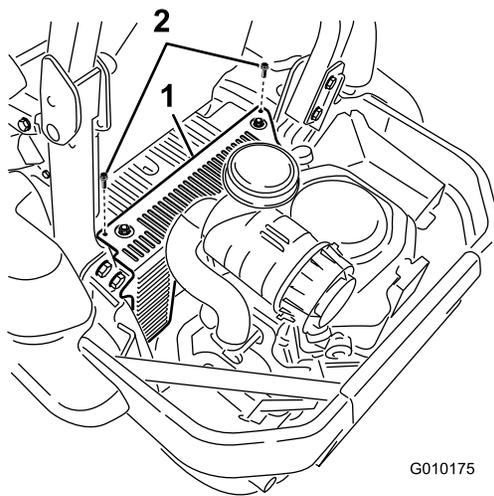

Figure 14
12. For international machines only, install the hydraulic unit shroud to the machine (Figure 14).